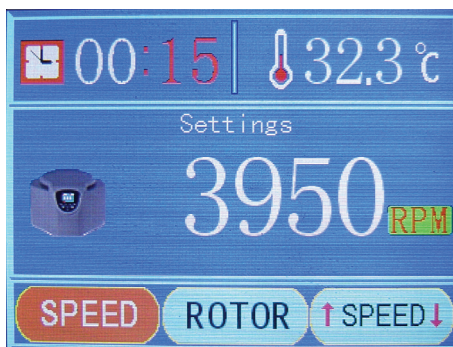

Figure 6 – Minutes setup
- 7.6.4. Press the “ SET” button to enter the rotating speed adjustment panel. Next, press the “ UP” or “ DOWN” button and press the “ SET” button again to enter the time adjustment area. The needed minutes can be chosen by pressing the “ UP” or “ DOWN” button (**Figure 6**).